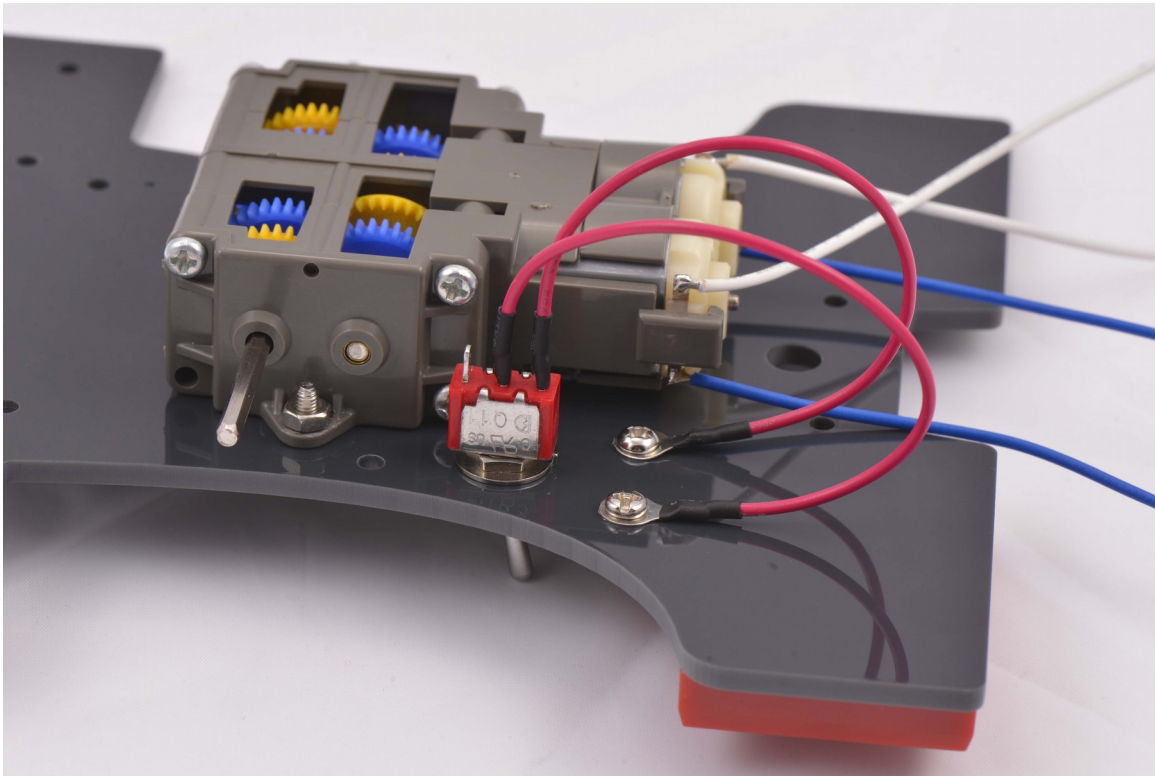

Figure 2.6
Insert two (2) 4-40 x 1/2" screws in the two holes next to the switch to act as terminal blocks. When mounting the screws, the eyelets of the switch wires should be captive, as shown in figure 2.6.